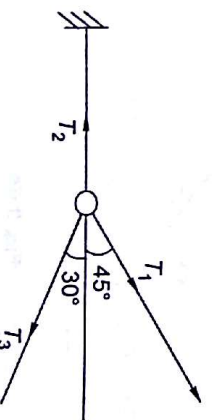

Fig. 3.62
3.5 A ring is pulled by 3 strings as shown in Fig. 3.62. What is the ratio of T_1/T_2 ?